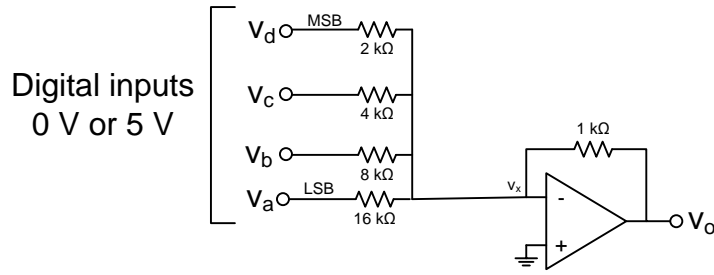

Figure 4: Alternative DA converter.
- (e) What is the weight (contribution) of each input bit in the output voltage of the DA converter shown in Figure 4?